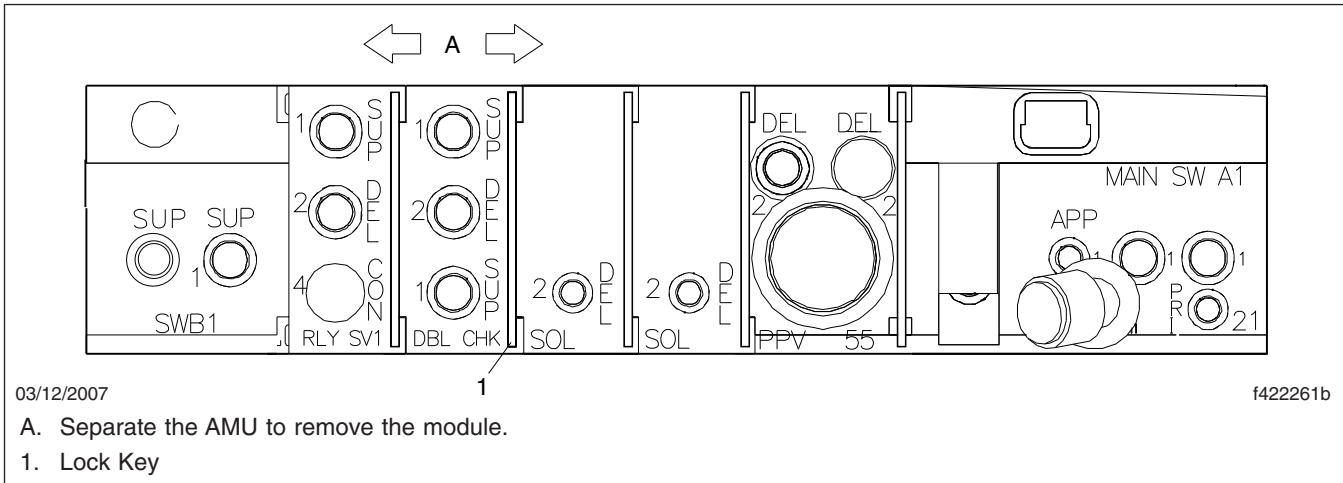

Fig. 3, AMU Module Replacement
- Pull out the locking keys from both sides of the module, and slide the AMU apart. See **Fig. 3**.